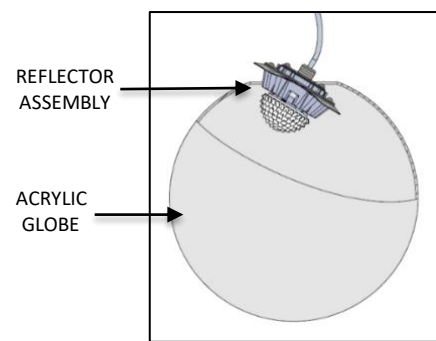

FIG. 28 - ACRYLIC GLOBE INSTALLATION
22. Tilt and Slide the REFLECTOR ASSEMBLY into the ACRYLIC GLOBE as shown in FIG. 28.